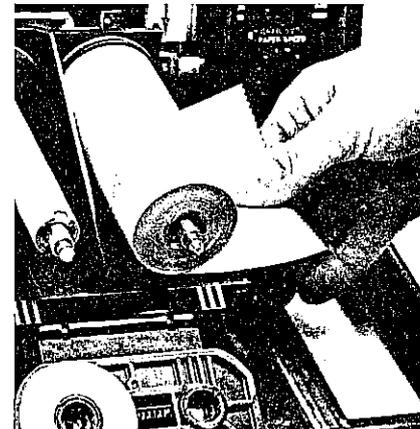

**Figure 27**
5. To remove the full take-up roll and the empty supply spool, press the two metal tabs together on the top of the platen assembly, and pull out and down on the paper retainer. (See Figure 26.) The full take-up roll can now be easily removed from the paper core shafts. (See Figure 27.)